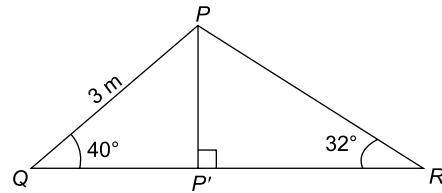

Figure RT1.5
- Figure RT1.5 shows a roof truss PQR with rafter $PQ = 3$ m. Calculate the length of (a) the roof rise PP' (b) rafter PR , and (c) the roof span QR . Find also (d) the cross-sectional area of the roof truss